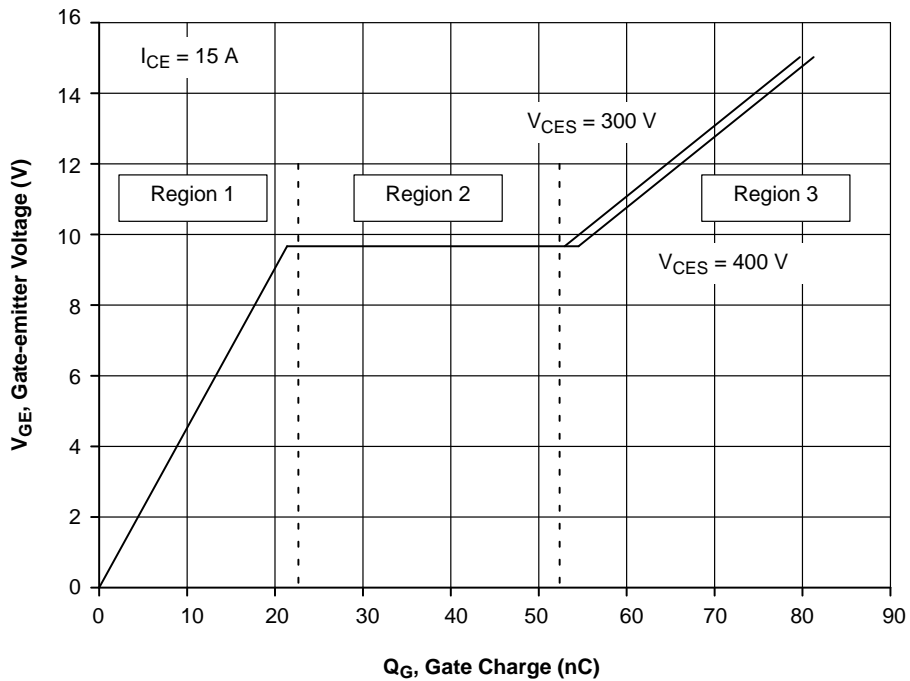

Figure 2. Gate Voltage vs. Gate Charge Characteristics (15 A, 600 V IGBT)
2. Gate charge considerations – In order to fully turn-on the device in high voltage application, both MOSFET and the IGBT drivers must supply voltage beyond the plateau voltage that is needed to overcome the equivalent of the Miller effect in the device (providing the Q_{GD} and Q_{GC} charge at a constant voltage to the MOSFET and IGBT, respectively). The plateau voltage is shown in Figure 2. As shown here, the typical IGBT has a higher plateau voltage (near 10 V) than a typical MOSFET (near 5 V). There is also a higher variability in the IGBT plateau voltage as a function of collector current. As a result, it makes sense to set the IGBT V_{GE} value higher than the typical FET V_{GS} value. However, in both cases, increasing the gate voltage beyond the plateau voltage increases the